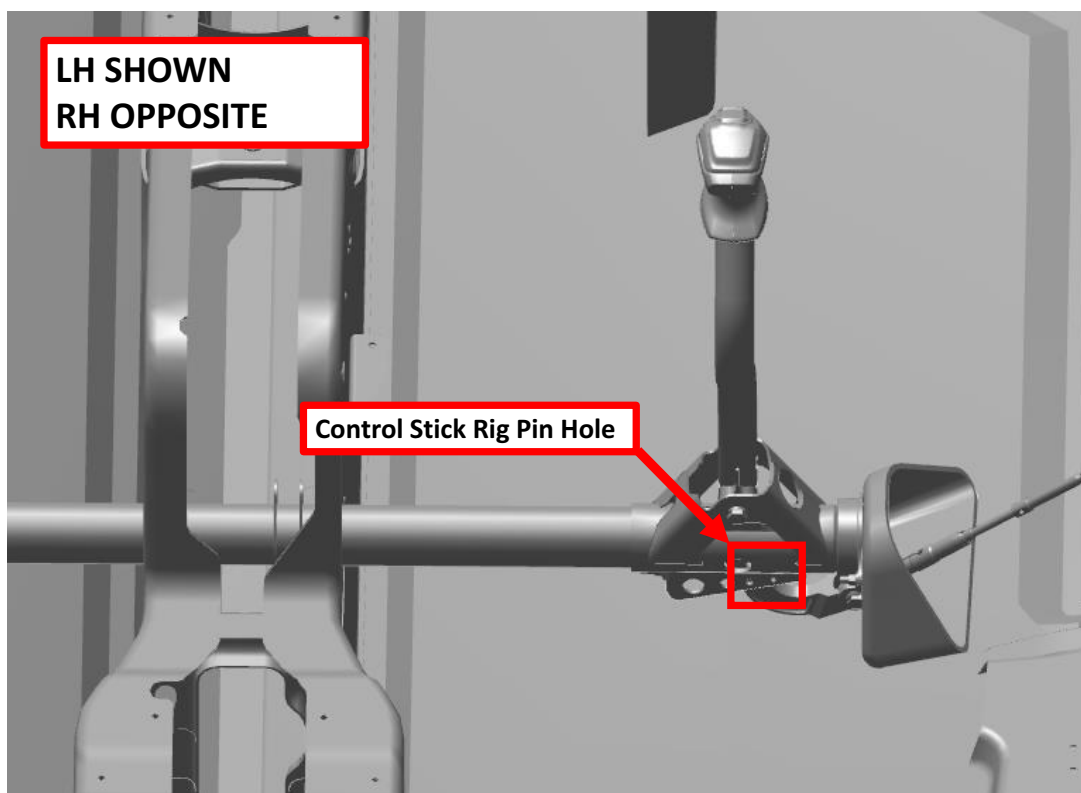

FIGURE 9-15
8. Install .1875 in diameter rig pin through the control stick rig pin hole. See Figure 9-15.